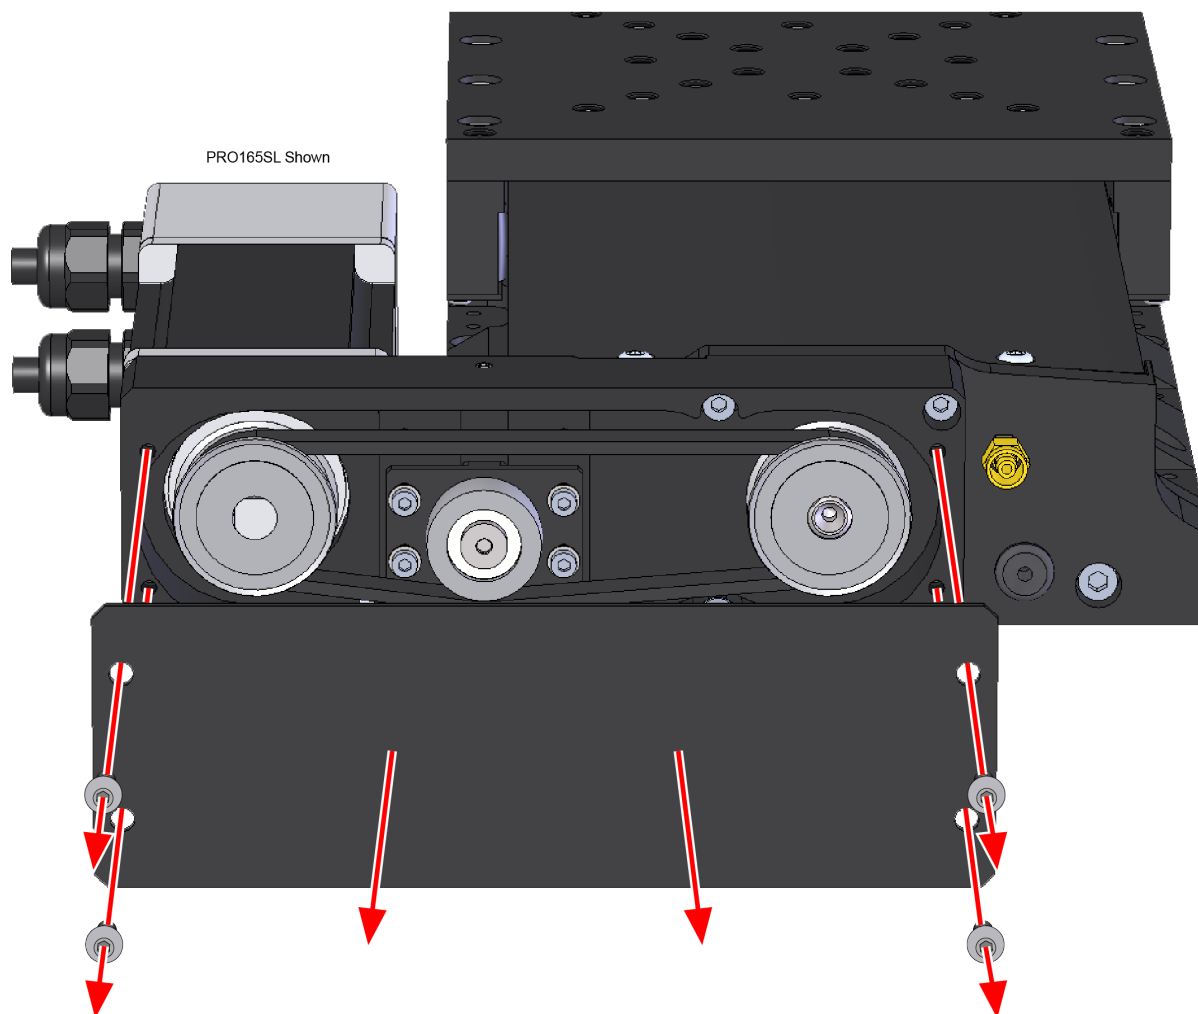

Figure 4-4: Foldback Motor Cover Removal
2. Remove the four mounting screws for the foldback cover (Figure 4-4).